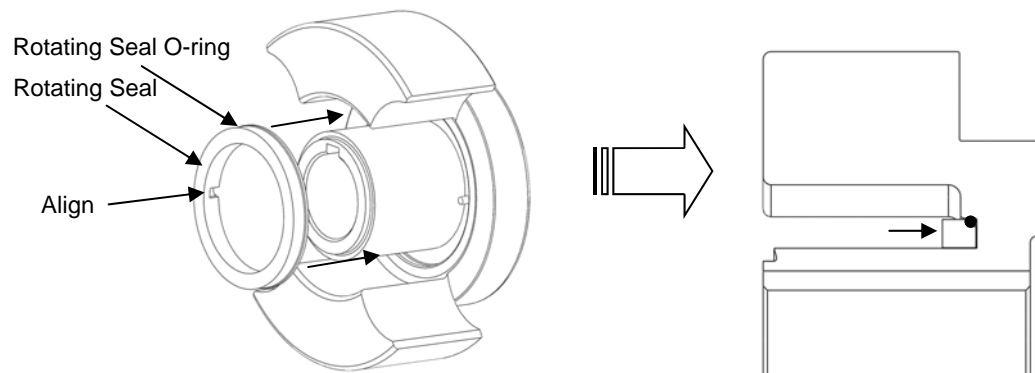

Figure 30: Inserting Rotating O-ring
4) Slide the rotating seal onto the rotor hub (Figure 30) making sure to align the slots on the seal to the drive pins in the rotor. Press the seal down until it seats inside of the rotor.